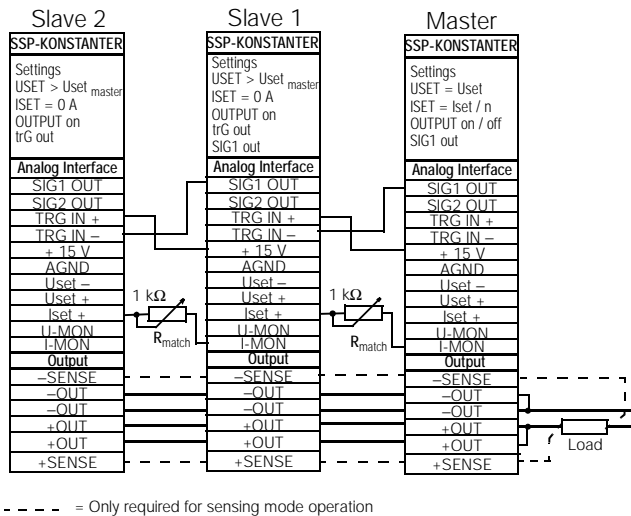

Figure 5.8.2
- Connect master and slave devices as shown in **figure 5.8.2**.